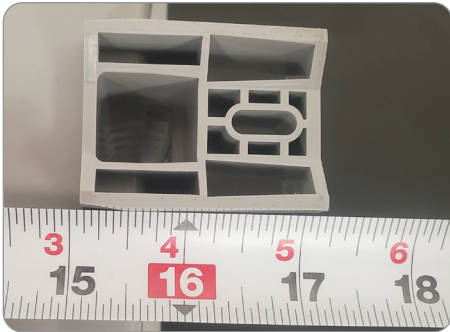

Figure 10
2. Identify the two mounting tabs found on the top and bottom of the enclosure and mark to be pre-drilled for enclosure placement. The mounting hole positions are approximately 16 ½ inches apart (**Figure 10**).